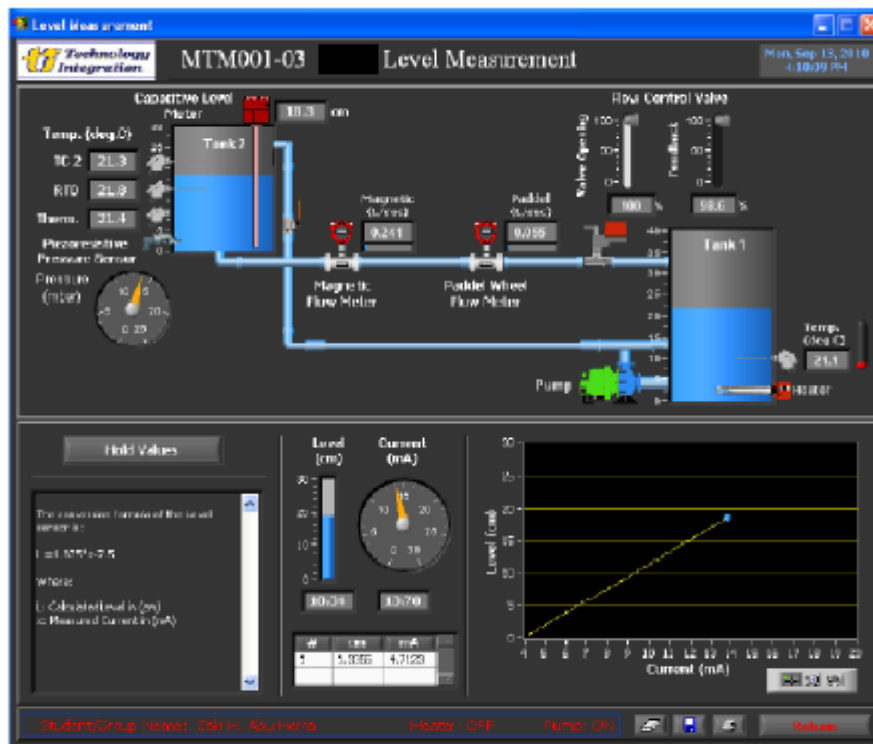

Figure 3: Level Measurement Experiment Window
1. Open the "MT001-003 Level Measurement" window as shown in figure 3.